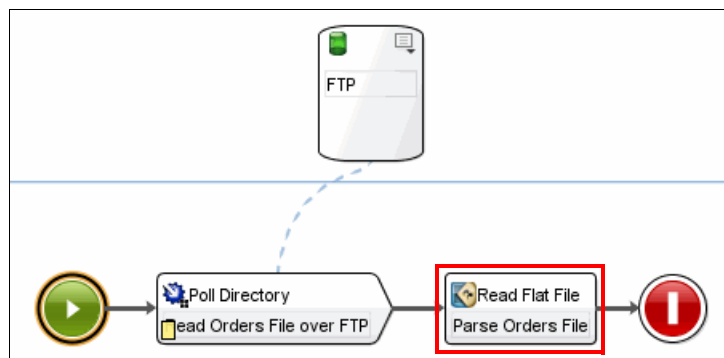

Figure 12-45 Read Flat File activity
1. From the Activities tab, select **Transform** → **Read Flat File**. Drag it to the right of the Poll Directory activity. Right-click the activity, and select **Rename** to rename it to Parse Orders File. Refer to Figure 12-45.